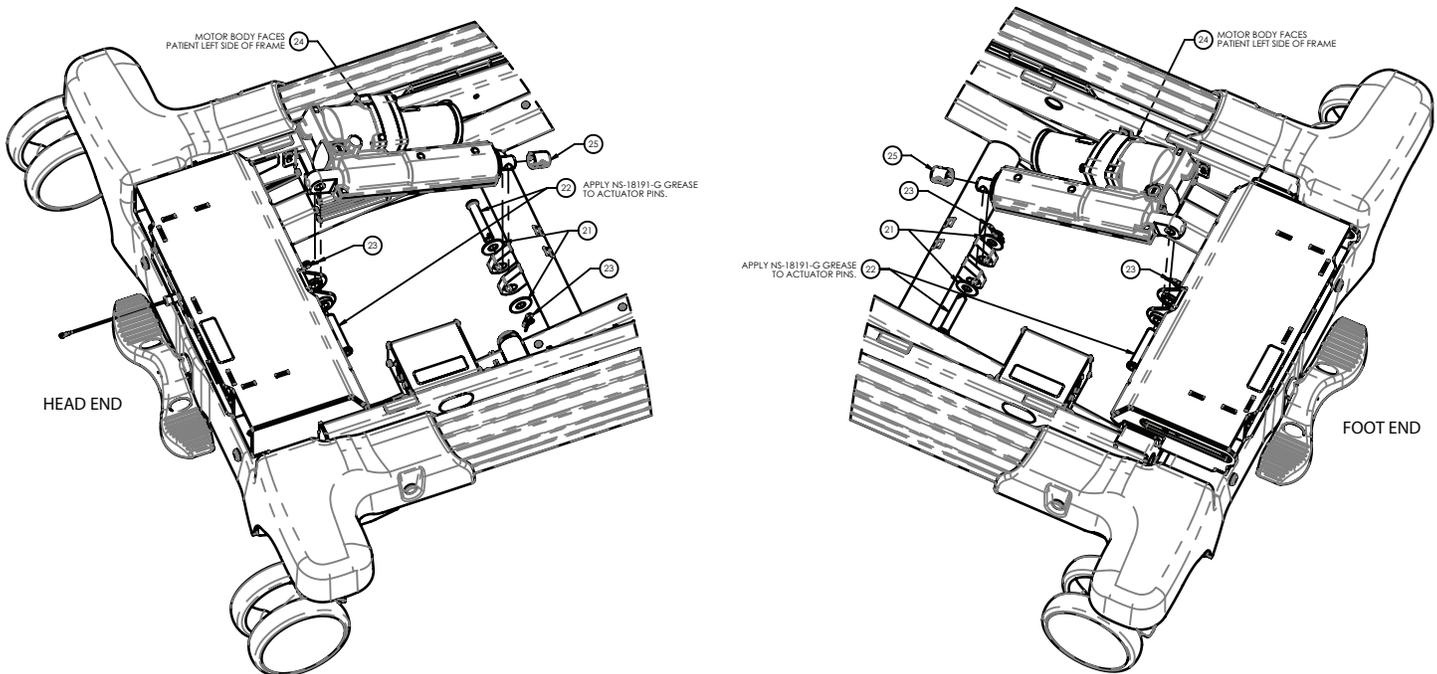

Figure 32 – Lift actuator replacement
10. Using needle nose pliers, remove both rive ring retaining clips (23) from the clevis pins (22) that attach the actuator (24) to the litter weldment and lift weldment (Figure 32).
11. While supporting the actuator (24) with one hand, remove the head end clevis pin (22) and foot end clevis pin (22) and then lower the actuator down (Figure 32).